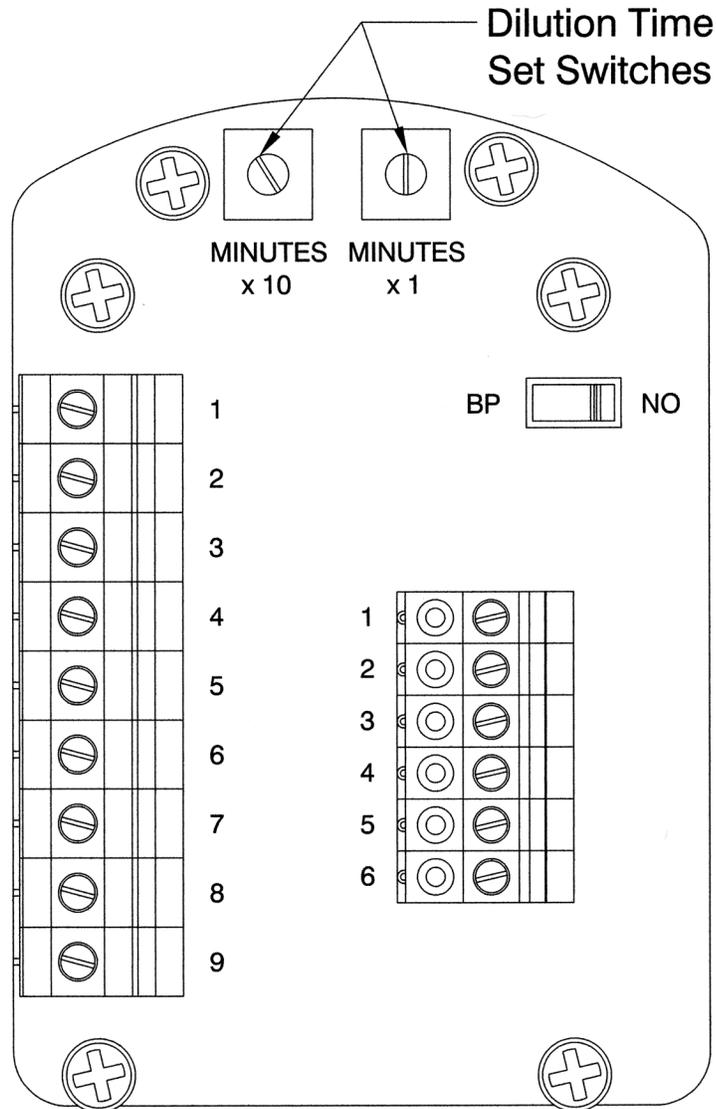

Figure 2
With enclosure door open to access the CYCLOPS X – Purge Controller, XP Version set automatic dilution time cycle to least five (5) times the volume of free space in the electronics enclosure is exchanged before power is automatically applied to the electrical equipment from the CYCLOPS X – Purge Controller, XP Version. **Refer to Figure 2 for location and details of dilution time switches in CYCLOPS X – Purge Controller, XP Version.**